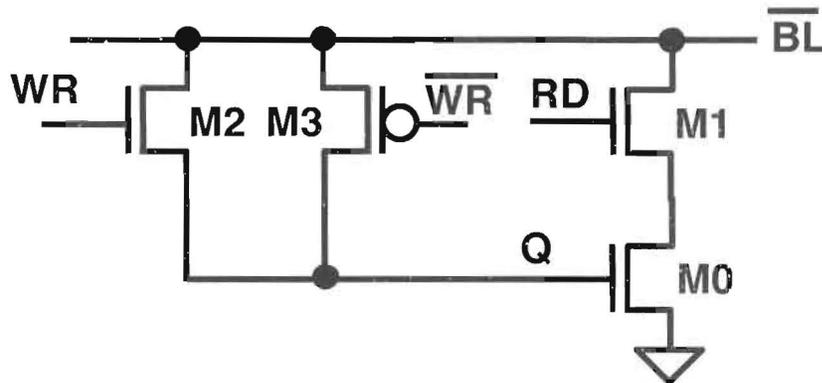

Figure 5: Four transistor memory cell.
**Problem 5.1 (2 points)** What type of memory cell is shown in Figure 5 (circle one)? Justify your answer. (Hint: Q is the storage node).
**Problem 5.2 (6 points)** Suppose node **Q** in Figure 5 has capacitance  $C = 75$  fF and is initially at  $0V$ . Using the switch  $RC$  model for the transistors, calculate the time to write node **Q** to  $V_{DD}/2$  assuming ideal steps on  $WR$  and  $\overline{WR}$  and that the initial resistance remains unchanged throughout the transition.